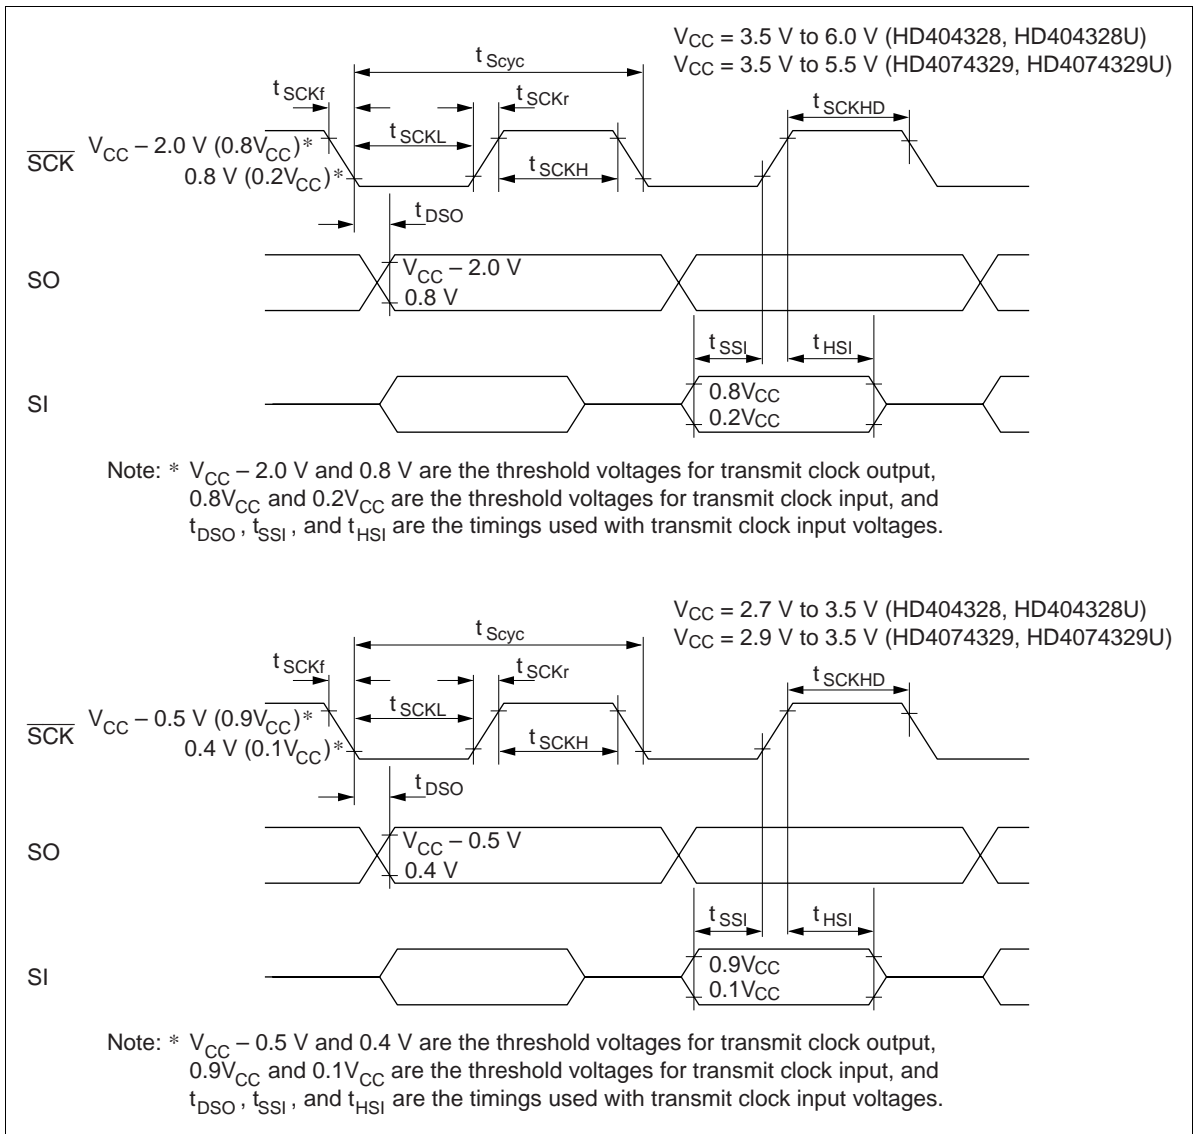

Figure 52 Serial Interface Timing
- Notes: 1. Refer to figure 52.
Note: * Refer to figure 52.